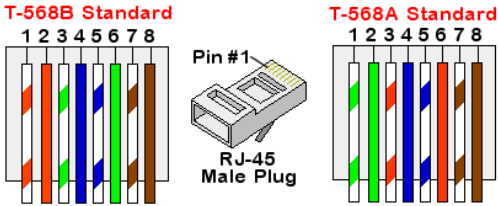

Figure 26: Standard cable wiring
- Insert the eight wires into the RJ45 connector, as described in Figure 26.
- 5** For the switch/router side, use a pre-crimped cable or use a crimper to prepare an RJ45 communication connector: Insert the eight wires into the RJ45 connector in the same order as in Figure 26.